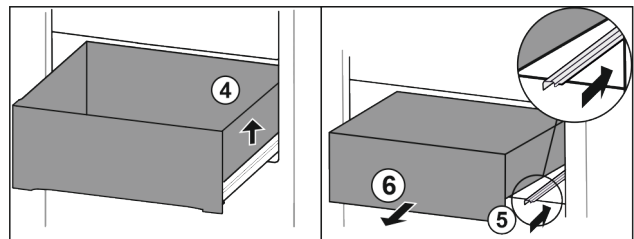

Fig. 21
- ▶ Lift drawer on the right. Fig. 21 (4)
- ▶ Slide in right rail. Fig. 21 (5)
- ▶ Remove drawer to the front. Fig. 21 (6)